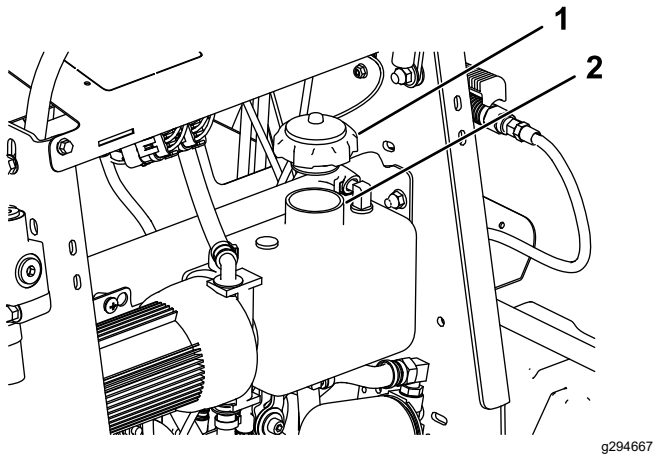

Figure 49
2. Remove the hydraulic-tank cap (Figure 49).